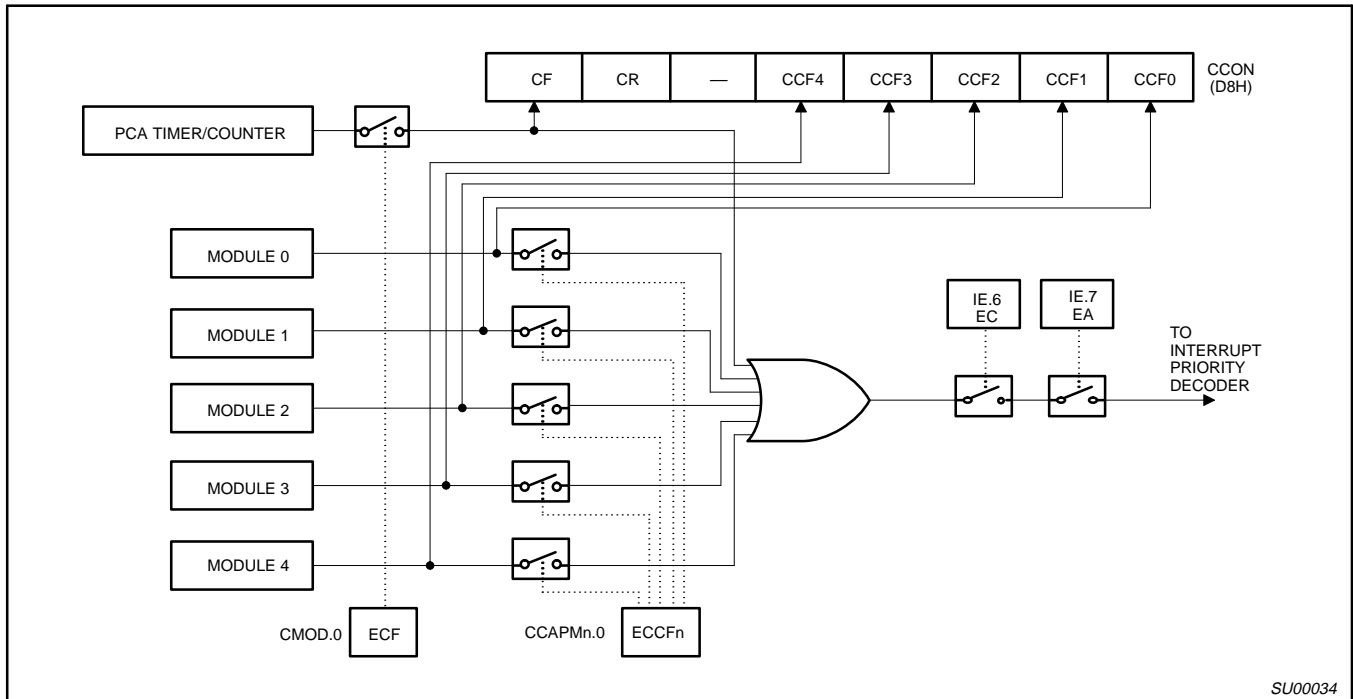

Figure 3. PCA Interrupt System
The CCON SFR contains the run control bit for the PCA and the flags for the PCA timer (CF) and each module (refer to Figure 5). To run the PCA the CR bit (CCON.6) must be set by software. The PCA is shut off by clearing this bit. The CF bit (CCON.7) is set when the PCA counter overflows and an interrupt will be generated if the ECF bit in the CMOD register is set. The CF bit can only be cleared by software. Bits 0 through 4 of the CCON register are the flags for the modules (bit 0 for module 0, bit 1 for module 1, etc.) and are set by hardware when either a match or a capture occurs. These flags also can only be cleared by software. The PCA interrupt system shown in Figure 3.